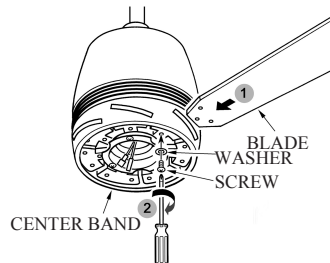

FIG.11
1. Attach each blade assembly to the fan body using the blade screws. Tighten them securely (see Fig.11)